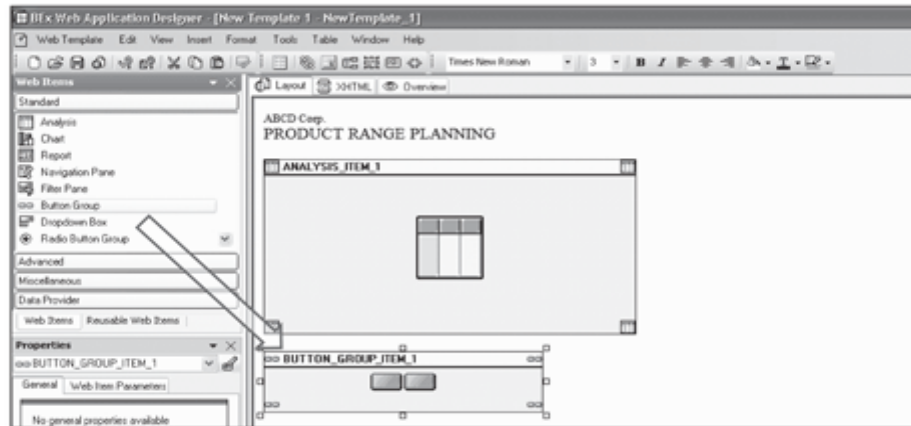

Figure 12.92 Add Button Group Web Item
6. Drag and drop the Button Group web item into the web template to add command buttons to the planning application (Figure 12.92).